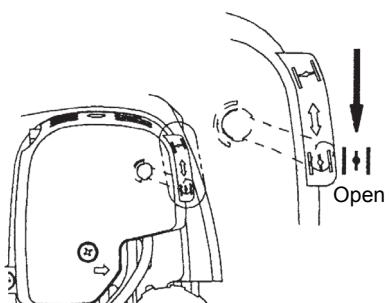

Figure 5
- When the engine starts, open the choke lever (Figure 5).